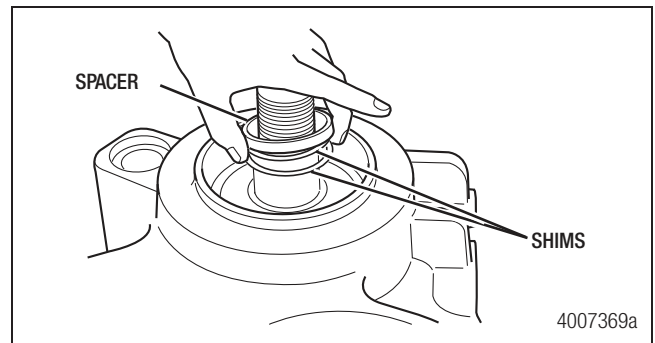

Figure 7.20
4. Install the shims and spacer over the shaft. If the bearings are being replaced, install a starting shim pack thickness of 0.036" (0.91 mm) or use the same thickness as removed. Figure 7.20.